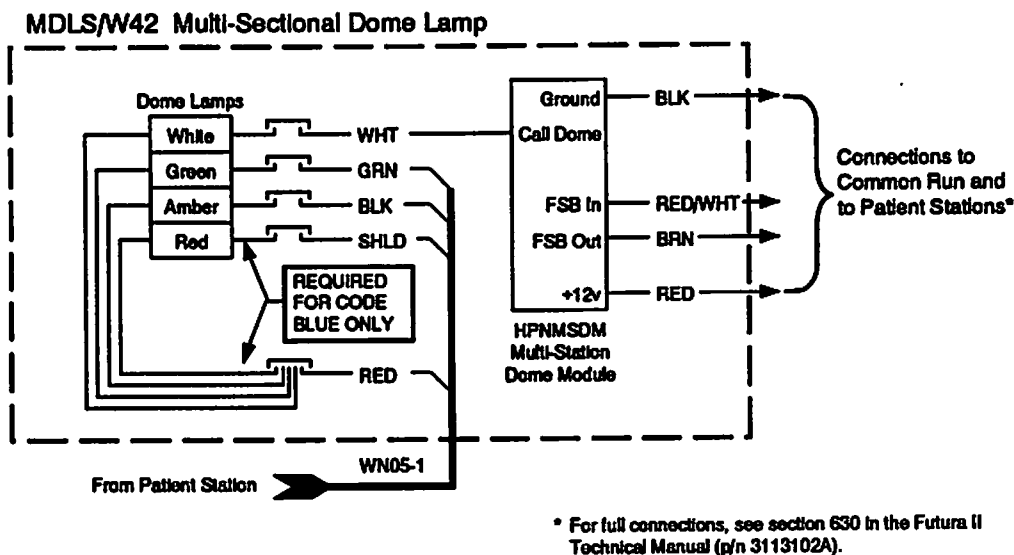

Figure 3. Connections for Multi Station Dome Module
- If more than one station is connected to the dome lamp, connect the HPNMSDM Multi Station Dome Module as shown in Figure 3.